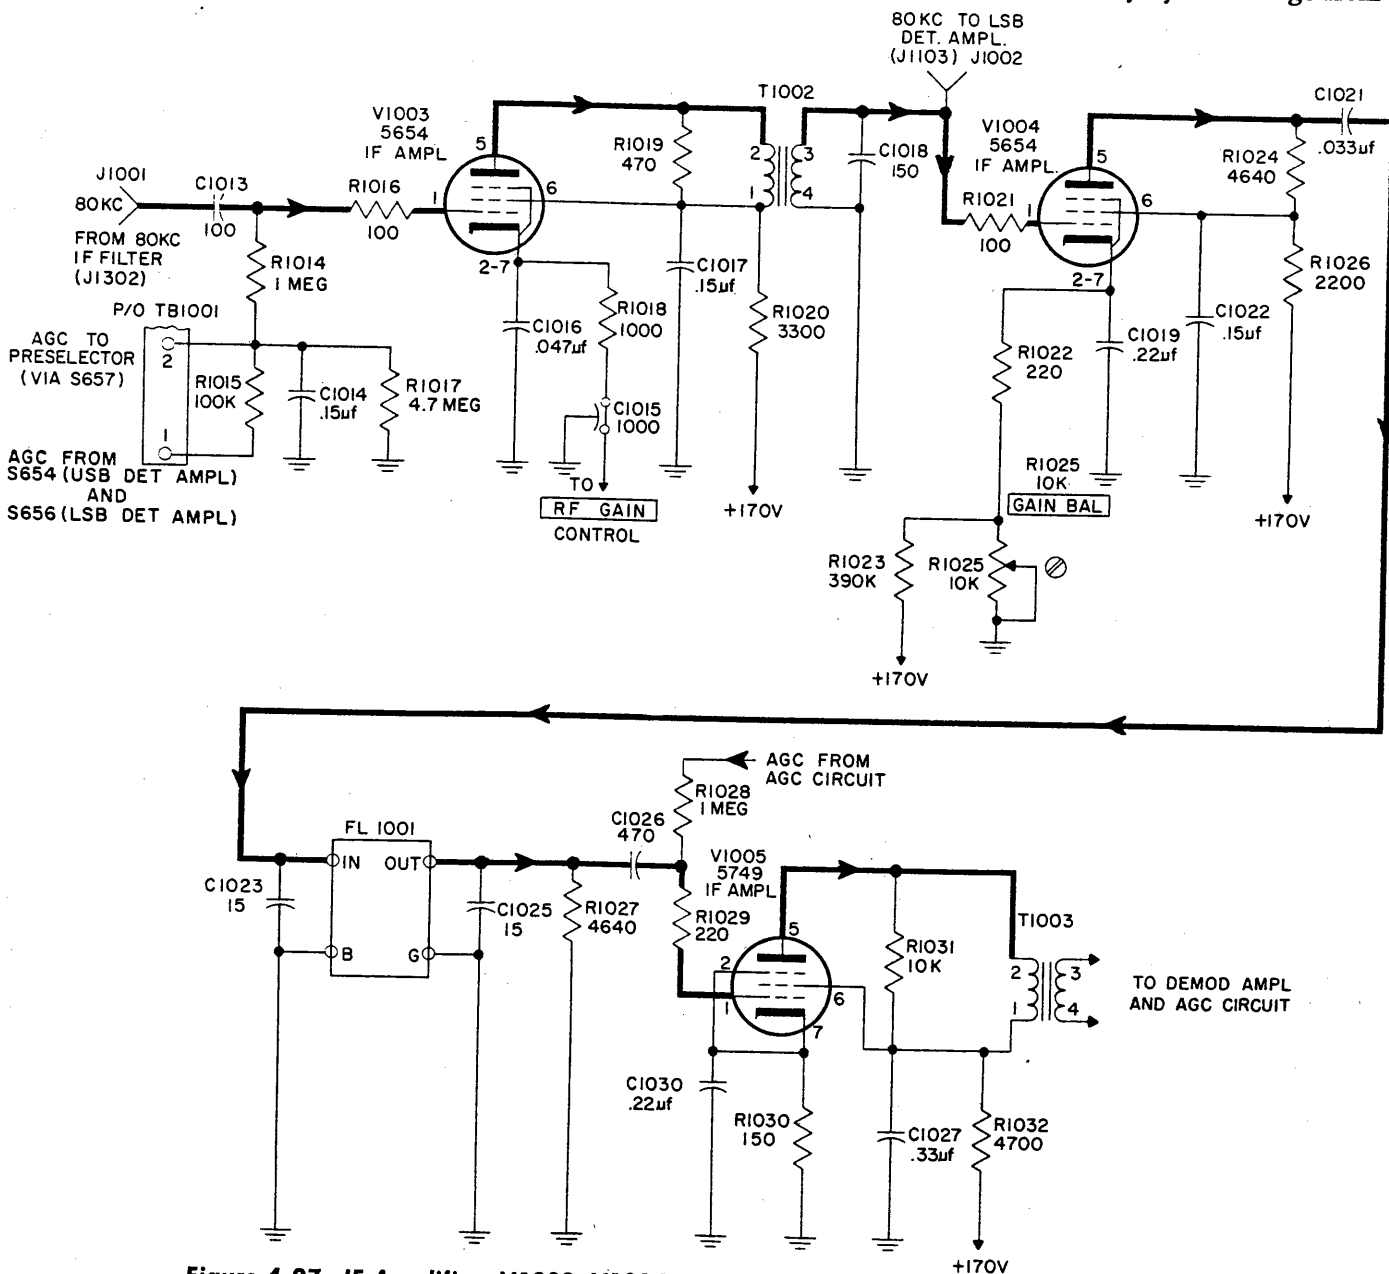
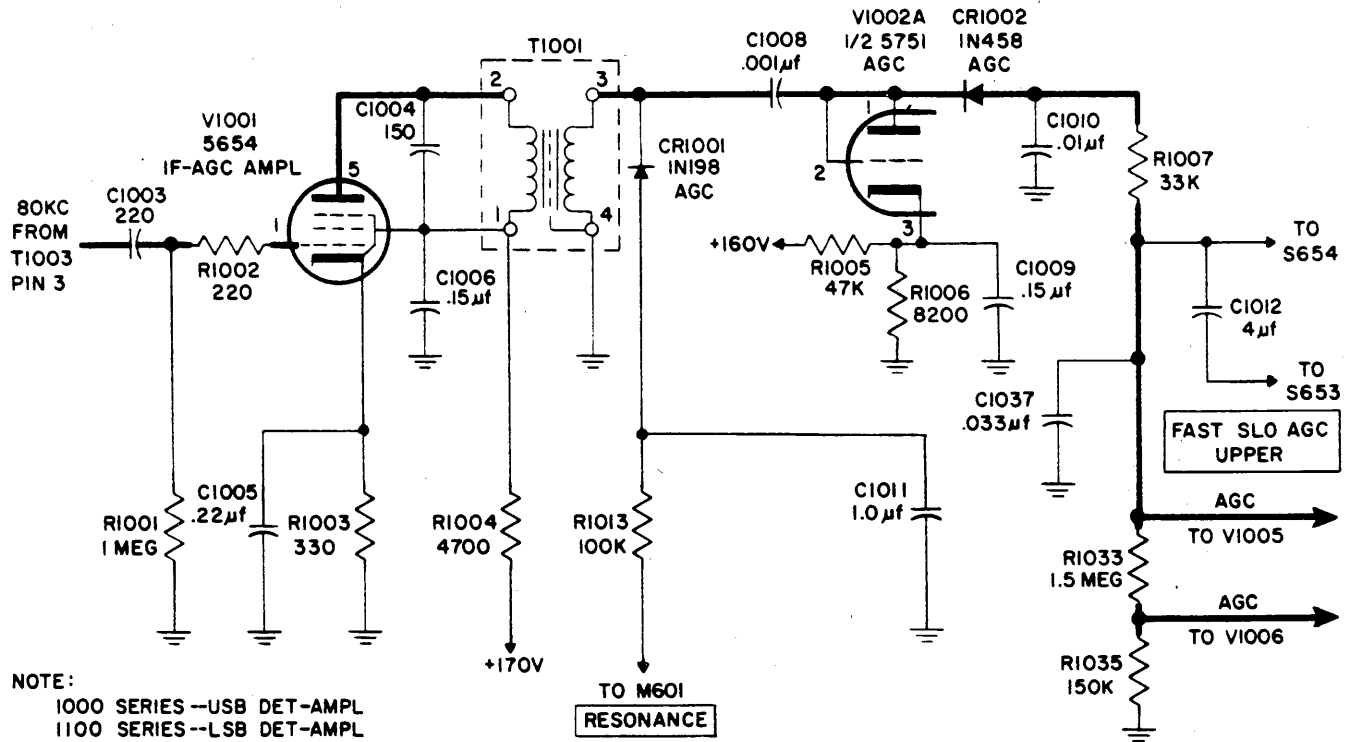
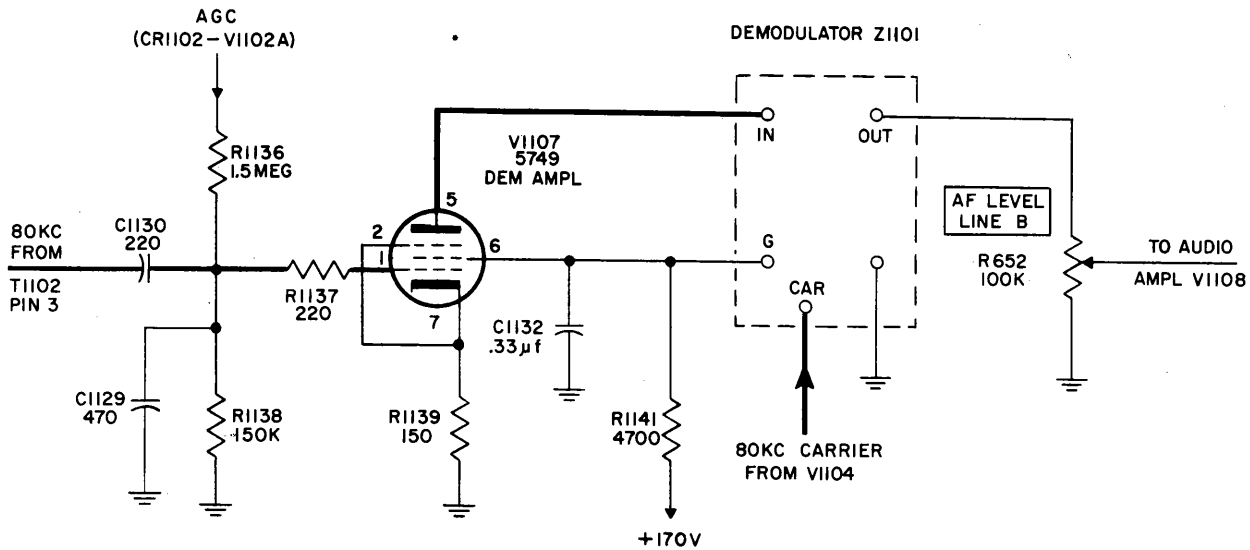

Figure 4-27. IF Amplifiers V1003, V1004, and V1005, Simplified Schematic Diagram
Figure 4-28. Automatic Gain Control Circuits, Simplified Schematic Diagram
Figure 4-34. Demodulator Amplifier V1107 and Balanced-Ring Demodulator Z1101, Simplified Schematic Diagram
*b. IF AMPLIFIERS V1003, V1004, AND V1005.* (See figure 4-27.)—The grid of V1003 receives its signal from the 80 kc filter through input connector J1001 and coupling capacitor C1013. The output of V1003 is developed across IF transformer T1002 and applied to IF amplifier V1004, also to the LSB detector-amplifier by way of connector J1002. The gain of V1003 is governed manually by the R.F. GAIN control on the lower converter panel and automatically by the voltage from
(figure 4-28). The latter develops a control voltage which is fed back through isolating resistor R1028 to the grid of V1005 (figure 4-27).
c. AGC CIRCUITS. (See figure 4-28.)—The 80 kc signal from T1003 (plate load of V1005) is applied to IF AGC amplifier V1001 through capacitor C1003. The output of V1001 is developed across transformer T1001 and applied directly to diode CR1001 and through capacitor C1008 to diodes V1002A and CR1002.
Figure 4-28 is the schematic diagram for the AGC circuits of both the USB and LSB detector amplifiers. These circuits are identical except for symbol reference designations. Numbers on the figures in the 1000 series refer to the upper sideband; those in the 1100 series refer to the lower. Both series are shown on the diagram.
The output of FL1101 is applied through coupling capacitor C1127 to IF amplifier V1106, the amplified output of which is developed across IF transformer T1102 and fed to demodulator amplifier V1107 (figure 4-34) and the AGC circuit (figure 4-28). The gain of V1106 is governed manually, by the R.F. GAIN control on the lower converter panel, and automatically, by the
c. LSB DETECTOR-AMPLIFIER AGC CIRCUITS. (See figure 4-28.)—The operation of the AGC circuits of the USB and LSB detector-amplifiers is identical. Refer to sub-paragraph 4-9c for a discussion of both. Figure 4-28 is a schematic diagram of both circuits. Symbol reference designations in the 1000 series refer to the USB circuits; those in the 1100 series refer to the lower sideband.
e. DEMODULATOR AMPLIFIER V1107, BALANCED-RING DEMODULATOR Z1101. (See figure 4-34.)—Demodulator amplifier V1107 receives its input signal from IF amplifier V1106 (T1102) through capacitor C1130. The plate load impedance of V1107 is in demodulator Z1101, which in addition detects the LSB IF signal. A second input to Z1101 is the 80 kc inserted carrier from carrier amplifier V1104. When Z1101 receives no IF signal at its IN terminal it has no output, but when there is an IF input at IN, the combination of IF signal and 80 kc carrier results in output